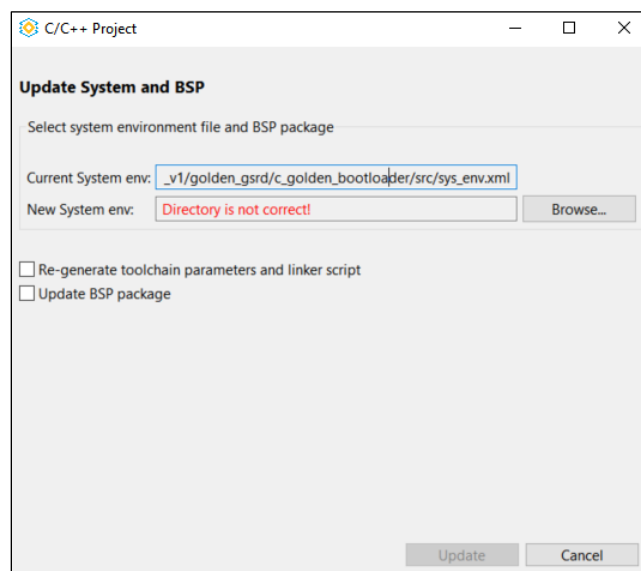

Figure 9.8. Update System Dialog Window
10. It opens the dialog box as shown in Figure 9.8.